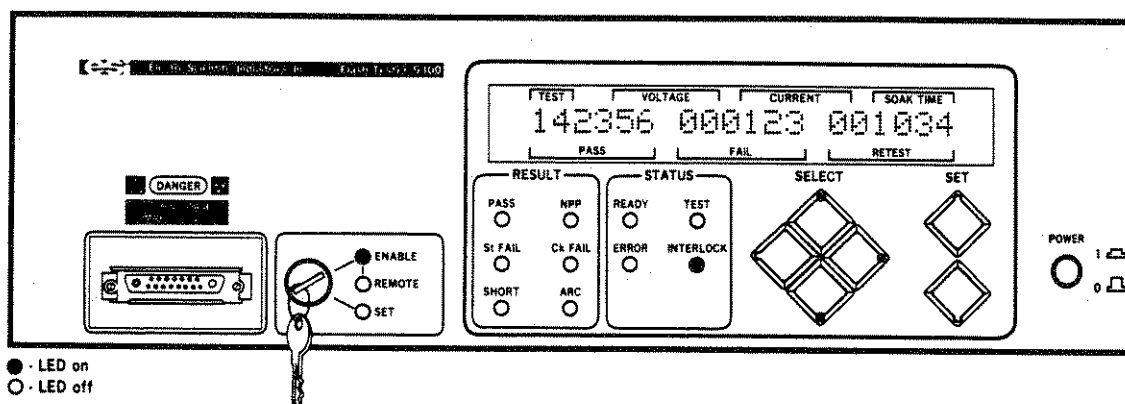

Figure 3-19. Bin Count Totals Display
STEP 5. Press the DOWN pushbutton. The display will change to indicate the summary of Bin Count totals. In addition, the RIGHT pushbutton will illuminate. The labels under the display indicate that the numbers represent the total of passing parts, failing parts, and parts to be retested. Figure 3-19 is an example of this. For more information, refer to Bin Count Totals Screen, Section 3.4.3.6.